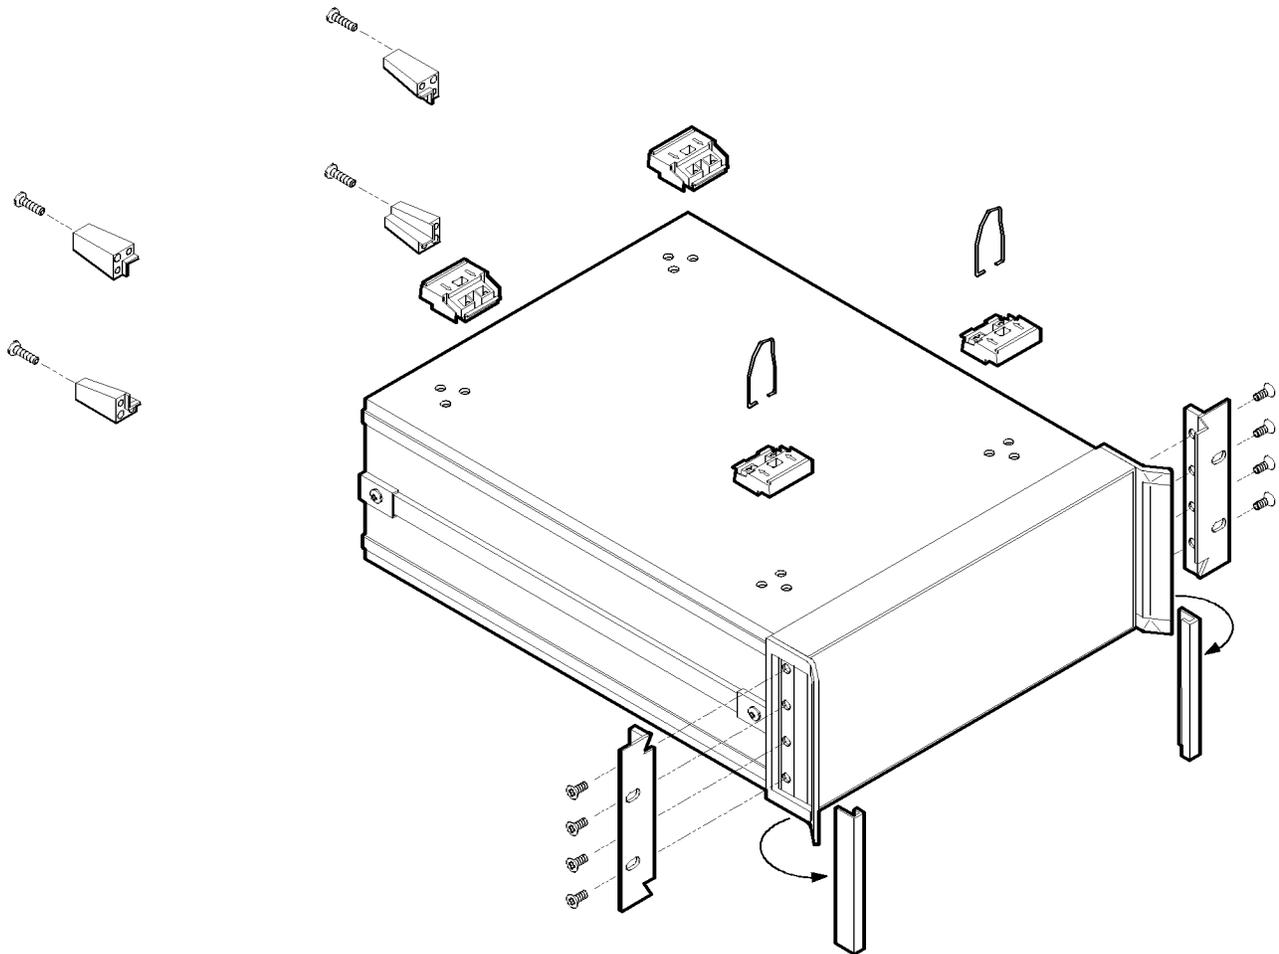

Figure 3-6. Rack Mount Flanges for Swept Signal Generators with Handles Attached
1. Refer to Figure 3-6. Remove handle trim strips.